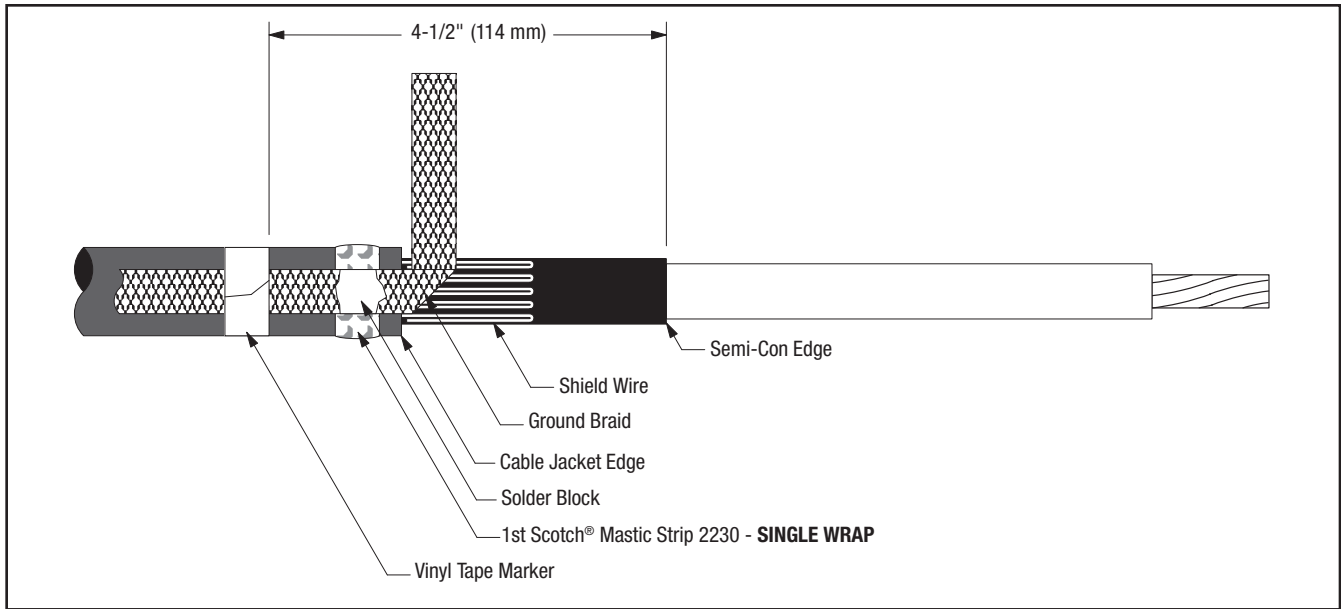

Figure 11
- 8.2 Position pre-formed ground braid with short tail over wire shield directly adjacent to cable jacket cut edge. PLEASE NOTE: The ground braid needs to make full contact with the shield wires. Position long tail of ground braid, extending over cable jacket with solder block over mastic strip (Figure 11). Secure ground braid to cable jacket **4-1/2" (114 mm) from cable semi-con edge using vinyl tape (see NOTE and Figure 11).**